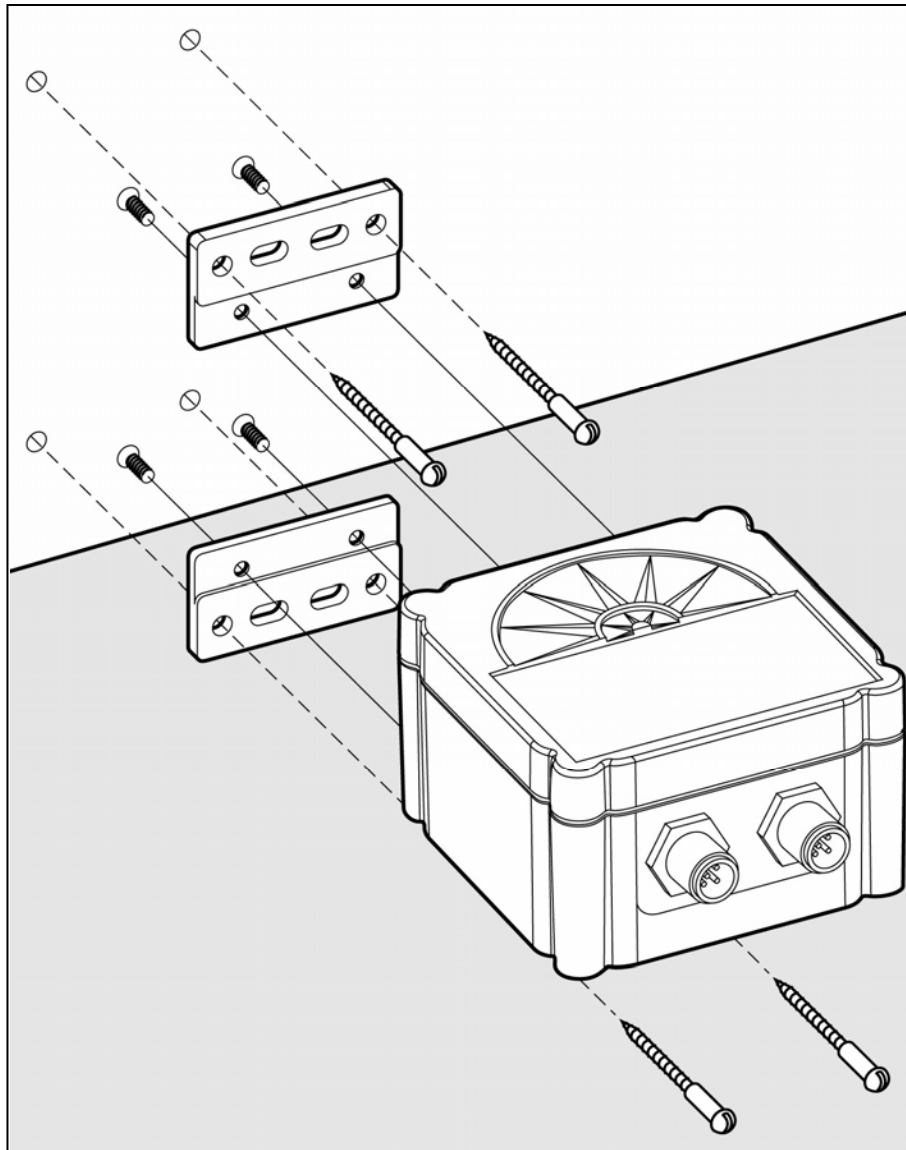

Figure 2 – Mounting the SSC200 to Vertical Surface
Mounting the SSC200 compass to a vertical surface requires that the provided mounting brackets be fastened to the side of the SSC200 using the provided brass flat head screws. Once the mounting brackets are securely fastened to the side of the SSC200, attach the SSC200 securely to the vessel using the included brass mounting screws or other non-ferrous fasteners as shown in Figure 2. Do not use threadlocking compounds containing methacrylate ester, such as Loctite Red (271), as they will cause stress cracking of the plastic enclosure.